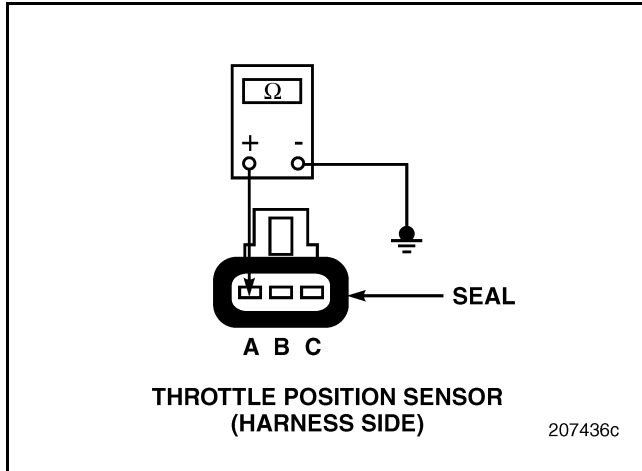

Figure 566
2. Disconnect the Throttle Position (TP) Sensor connector.
3. Check for continuity between TP Sensor harness connector pin A and a good ground (see Figure 566).